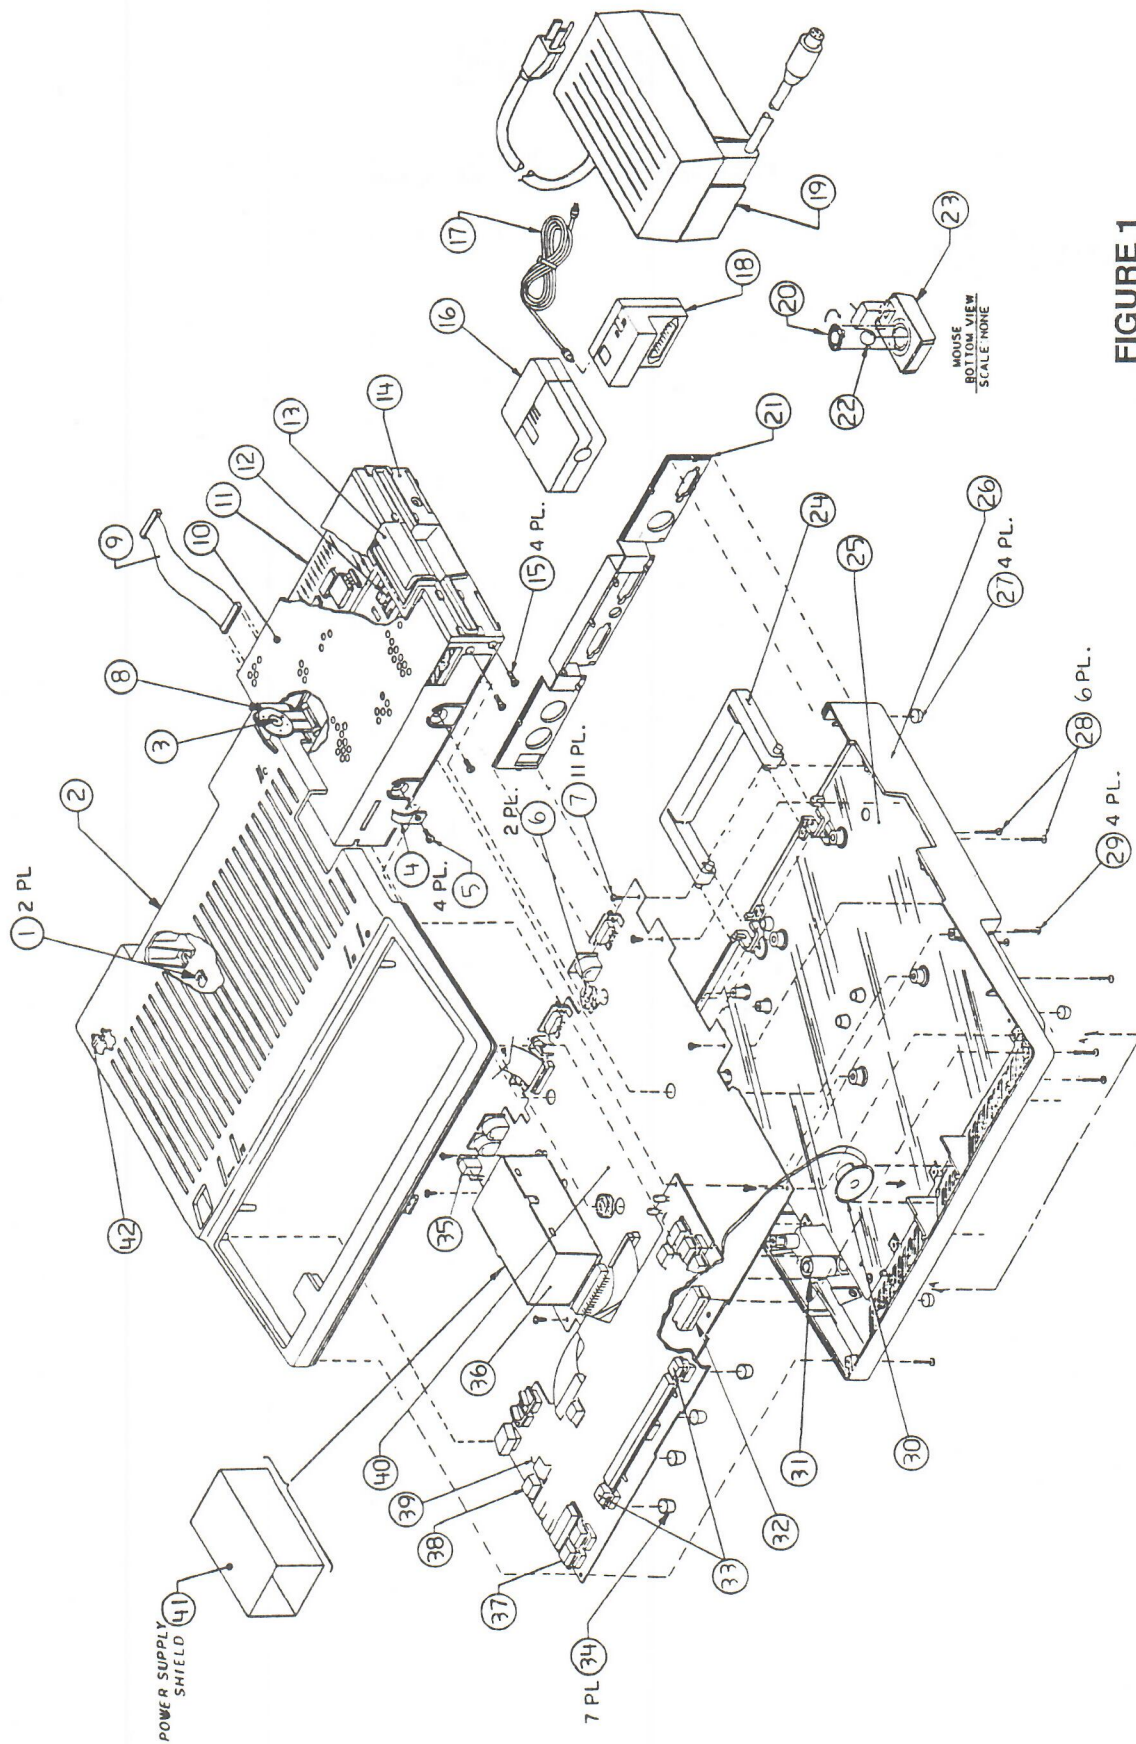

FIGURE 1
- IPL.3 Finished Goods Assembly (Figure 1)
□ APPLE IIc – FINISHED GOODS ASSEMBLY (Figure 1)